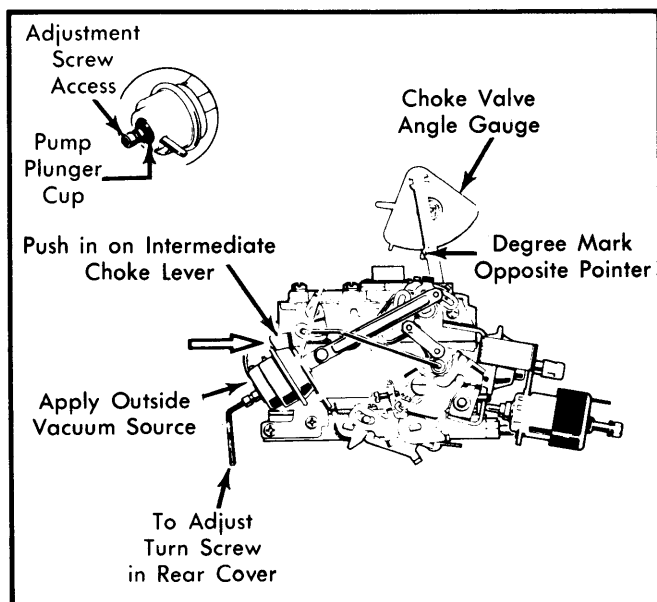

Fig. 9 Secondary Vacuum Break Adjustment
1) Remove secondary choke vacuum break from carburetor, place bracket in a vise, and carefully grind off adjustment screw cap. Using an outside vacuum source, seat secondary choke vacuum break diaphragm. See Fig. 9.